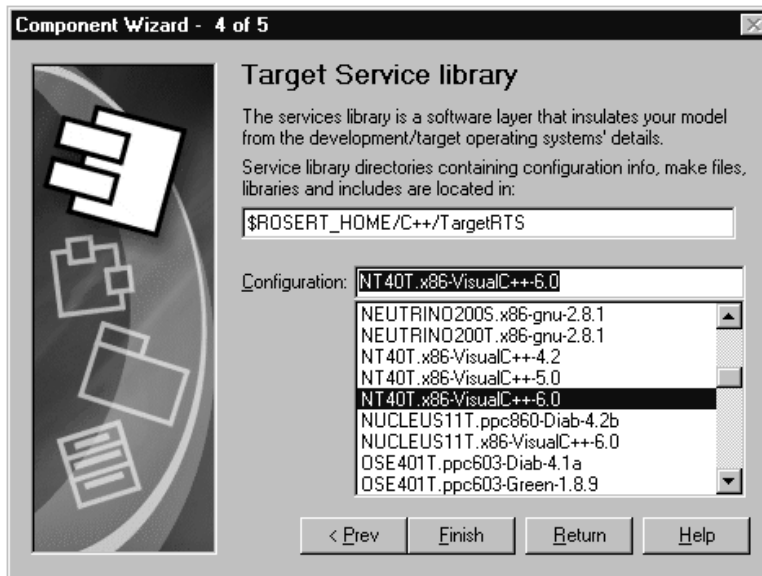

Figure 25 *Setting the target service library*
7. Choose the target configuration as in Figure 25. If your development configuration is Visual C++ 6.0 in Windows NT, select NT40T.x86-VisualC++-6.0 and click **Next**. If your configuration is different, select the appropriate target.